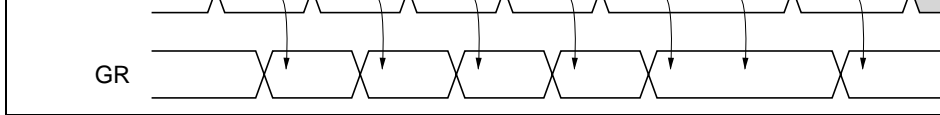

Figure 8.39 Changing a General Register Setting by Buffer Transfer (Exampl
- Figure 8.39 shows six correct examples and one incorrect example.